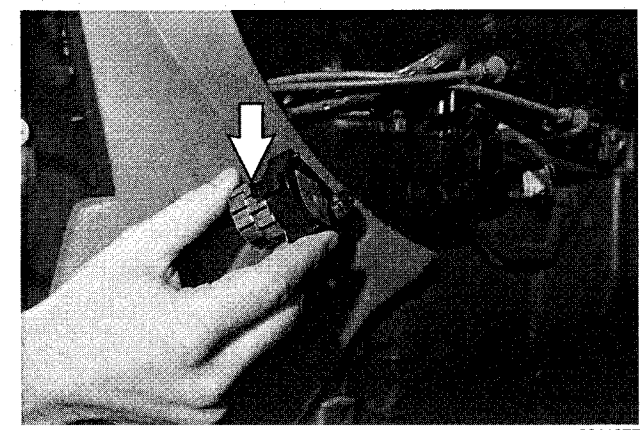

Fig. 29. A/C air distribution motor plastic retaining clip (arrow). Release clip and tilt motor out of housing.
3. Each motor can be removed after its electrical wiring harness connector has been removed. Squeeze plastic clip to release motor. See Fig. 29.